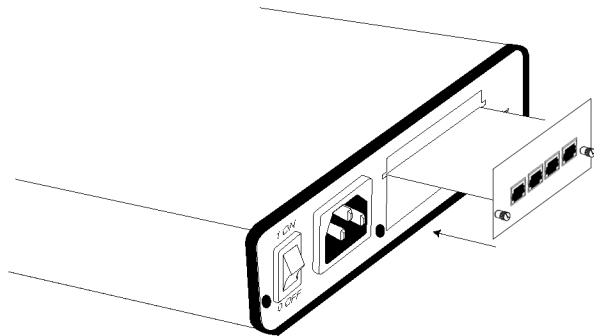

Figure 4. Installation of Model IM1/I4 Plug-in Serial Interface Module
- 3) While keeping the module's faceplate parallel with the base unit rear panel, slide the module straight in—so that the card edge contacts line up with the socket inside the chassis. Figure 4 (below) shows how a Quick Connect Module plugs into the rear of the base unit.